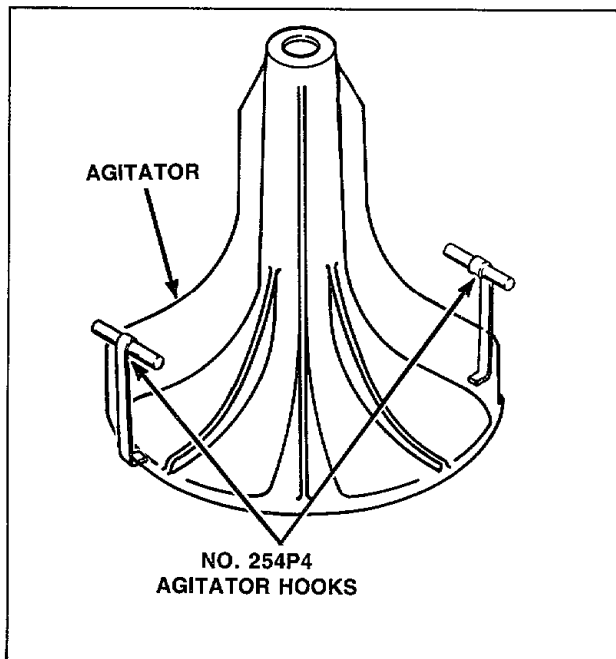

Figure 12
- b. To remove the agitator by hand, place two agitator hooks, No. 254P4, under the bottom edge of the agitator, *Figure 12*.